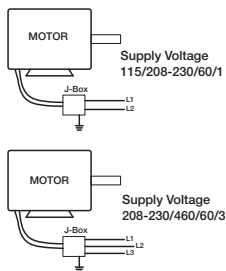

Figure 7 — Typical Wiring Diagram
- Mount and wire safety disconnect switch under ventilator cover and wire motor per connection wiring diagram on motor. See Electrical Connection, Figure 7. Wire control switches at ground level.
NOTE: Refer to Figure 7 for connection wiring diagram.